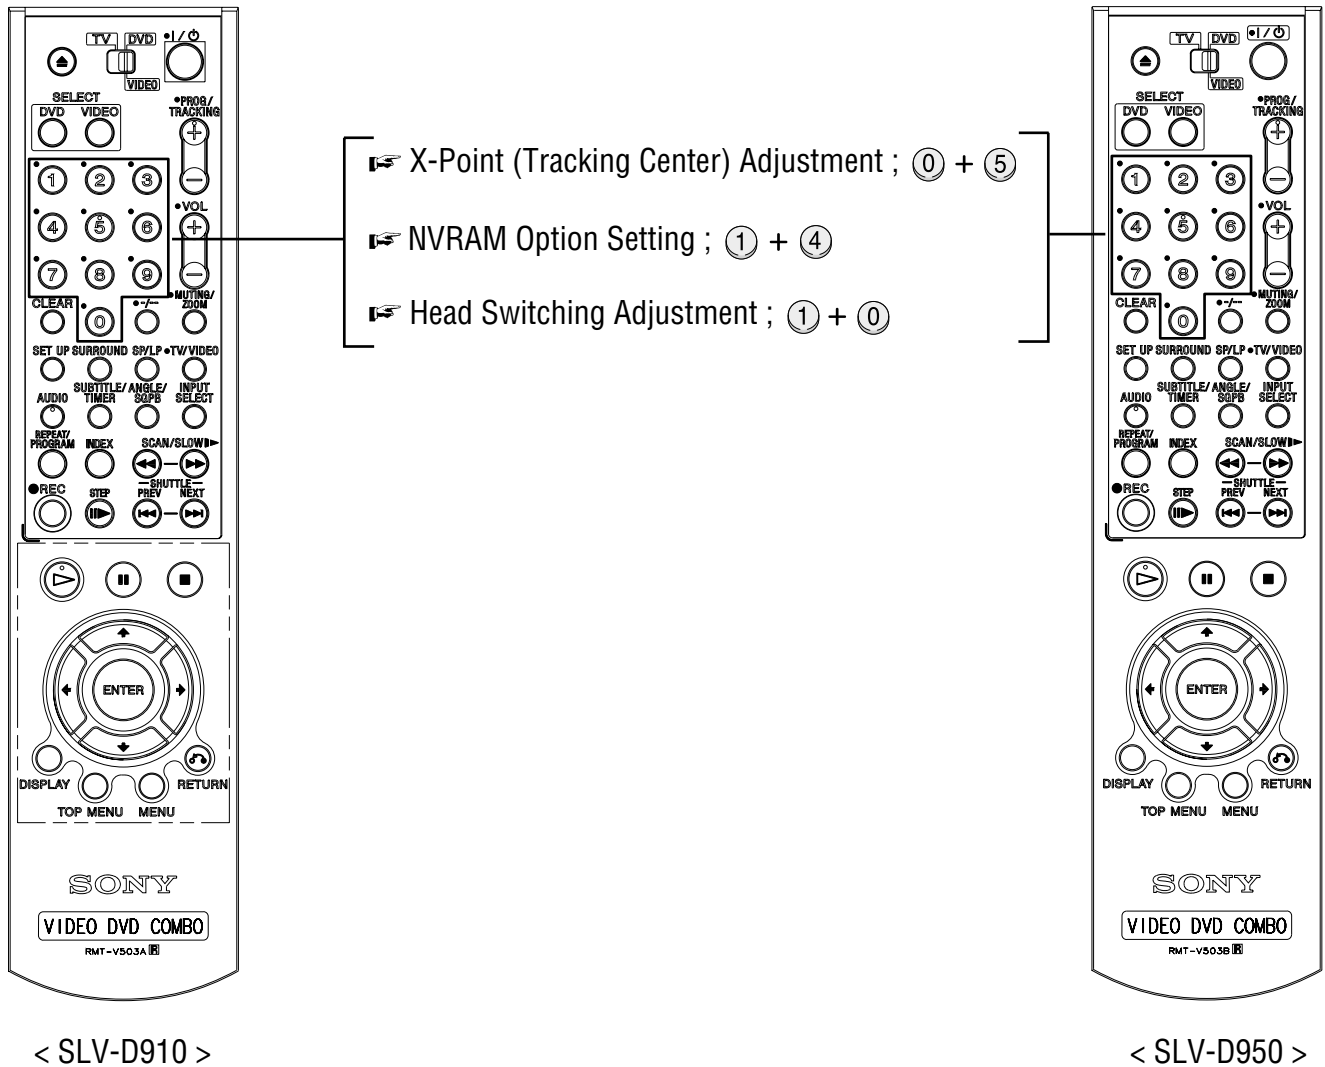

Fig. 6-1
- 3) Press the “1, 0” buttons ; remote control adjustment operates automatically. (See Fig. 6-1)